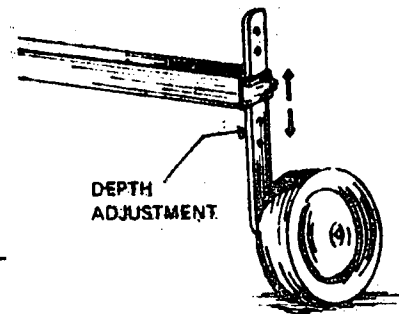

Fig. 2
- b) Adjust the depth with the hydraulic system lever, or with the side wheels, while digging along the first few yards, (Fig. 2).